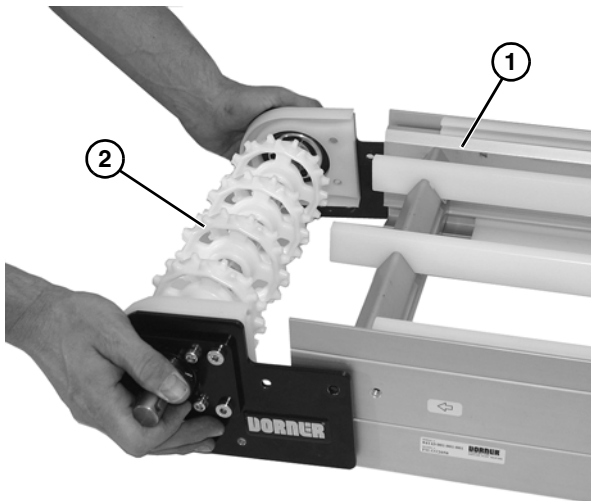

Figure 40
3. Remove the drive tail assembly (Figure 40, item 1) from the frame (Figure 40, item 2).